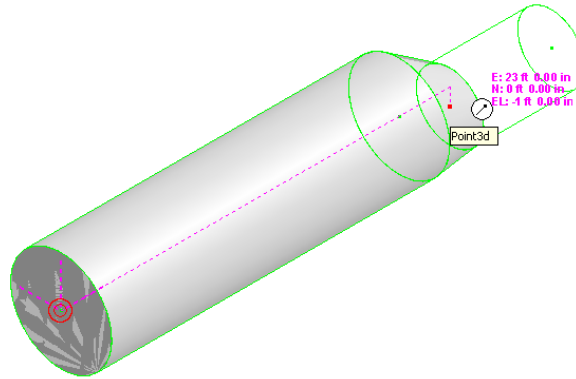

Figure 21: The Placed Equipment
19. Using **Connect** relationship as mentioned in step 16, place it at the free end of the **Eccentric Cone**, as shown in Figure 21.